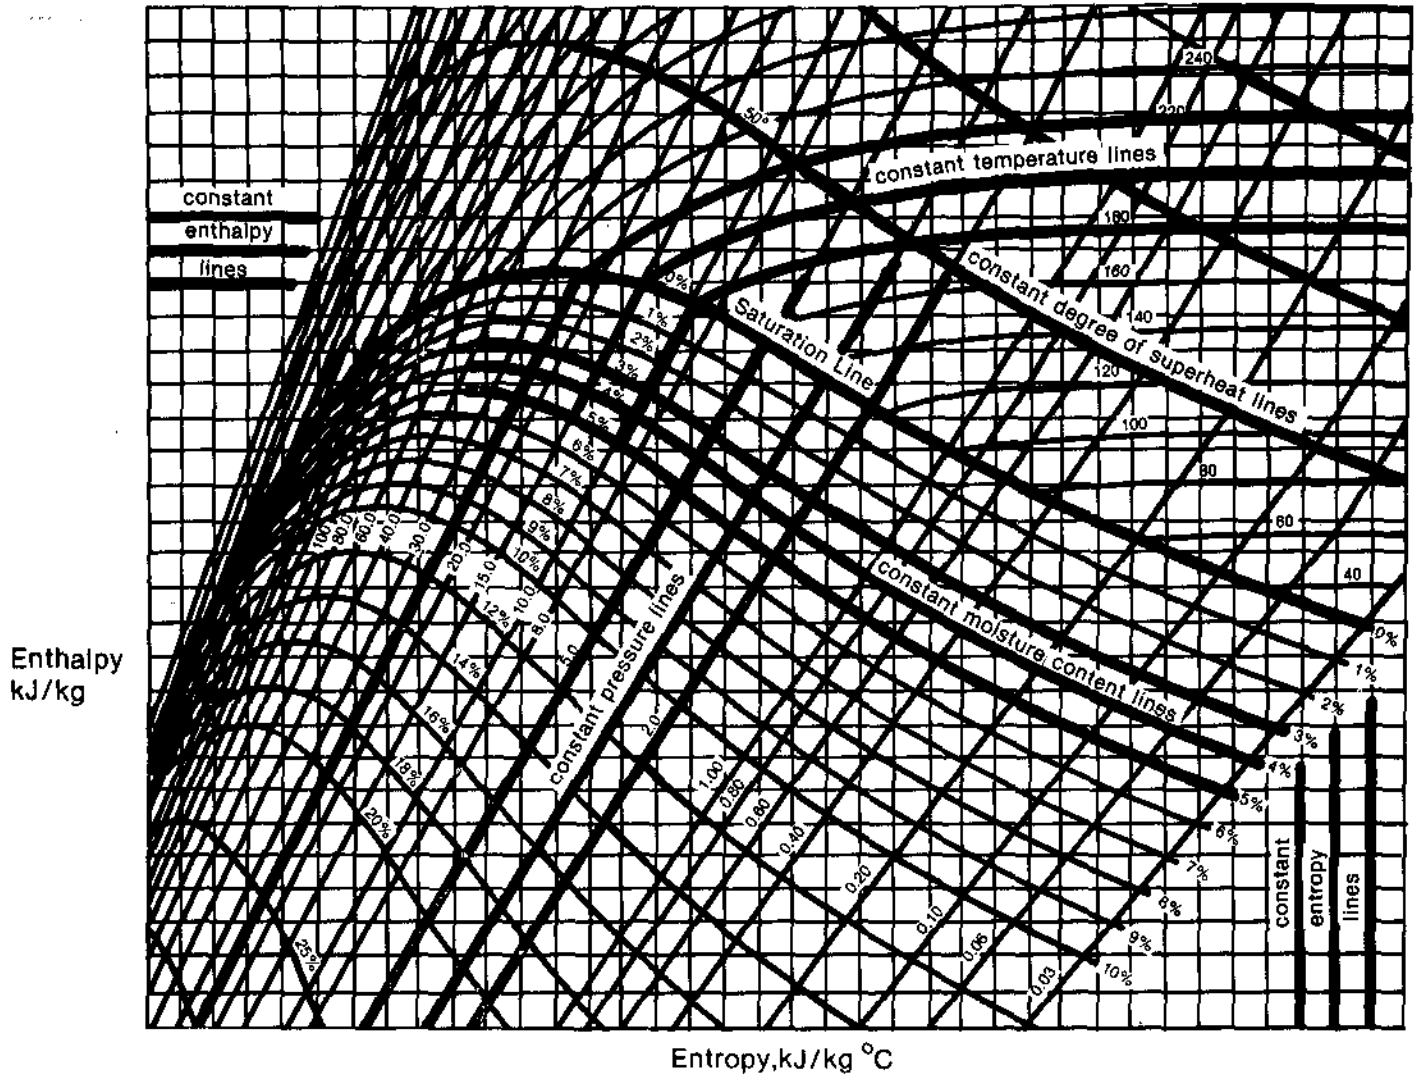

Figure 6.16
6.1) Your diagram should have the same shape and labels as Figure 6.16: